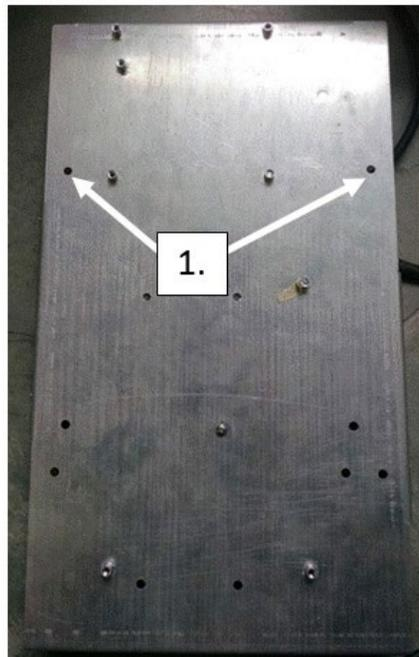

Figure 74
26) Secure both power supply assemblies together “back to back” by installing two pairs of the provided 6-32 screws and nuts (006-8611215 and 006-8611426) at [1] See Figure 74 below.